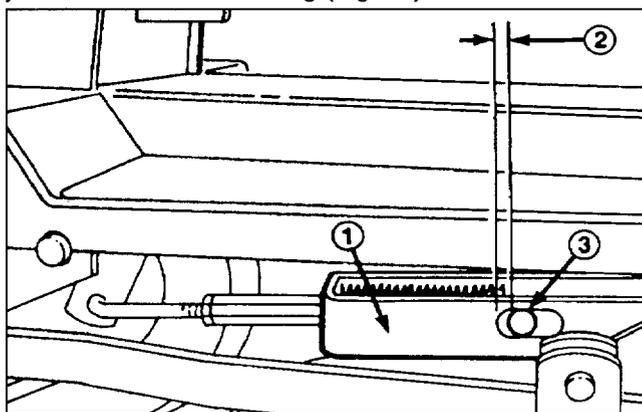

Figure 27
2. Loosen jam nut and turn adjusting hub until there is 0.060 inch (1.5 mm) or less between end of slot in engagement bracket and outer diameter of pin. Retighten jam nut at new hub setting (Fig. 27).